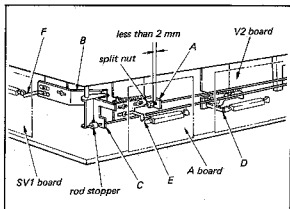

Fig. 4-22. Record button latching adjustment
2. Push the AUDIO DUB button. Check that the slide switch on the A circuit board is actuated. Refer to Fig. 4-22.